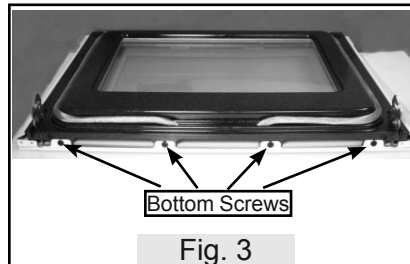
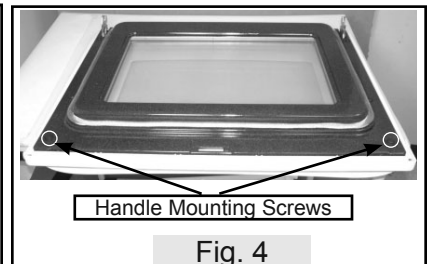

Fig. 3
Fig. 4
2. Remove the bottom screws that secure the inner liner to the outer door panel. (Fig. 3)
3. Remove the two handle mounting screws and remove the door handle. (Fig. 4)
1. Remove the two self tapping screws that secure the receptacle to the oven chassis frame (Fig 3).
1. The new receptacle will have a black colored roller pin. Make sure to install the receptacle with the narrow end of the slot at the bottom (Fig. 4).
3. With one hand hold the drawer front in place. Use your other hand to pull the glide away from the oven (See Fig. 2) until the glide hook disengages (See Fig. 3 & Fig. 4).